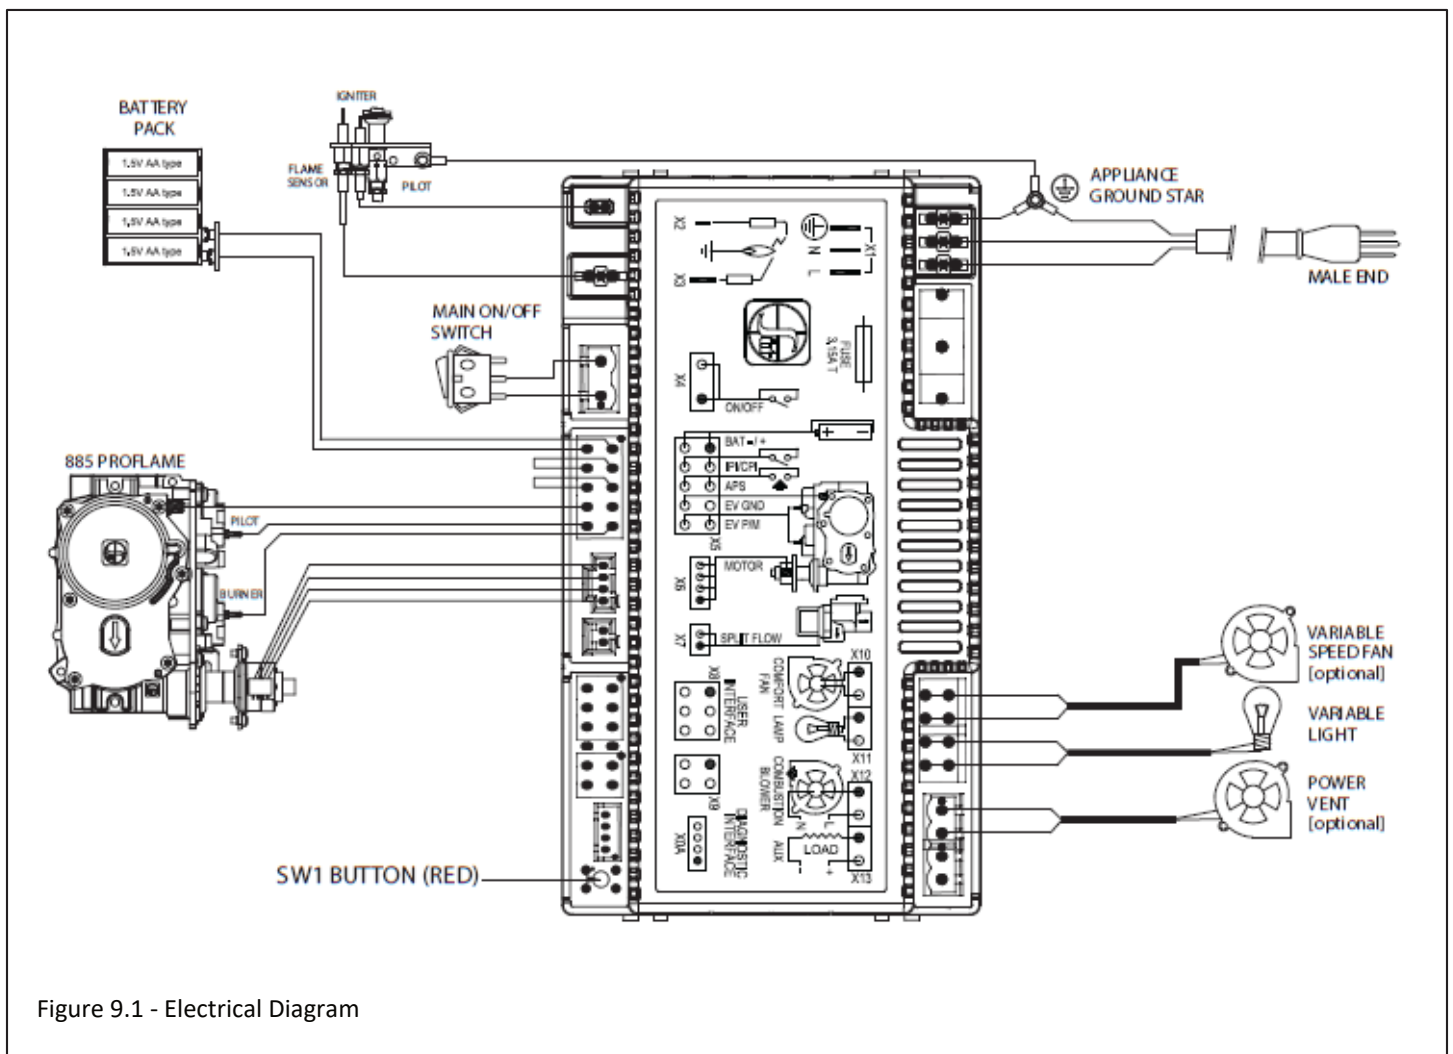

Figure 9.1 - Electrical Diagram
9. Plug the fan cord into the receptacle on the IFC control module. See FIGURE 9.1